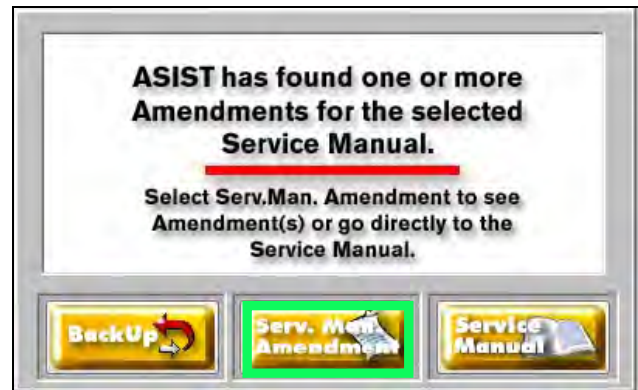

Figure 9
- d. **Serv. Man. Amendment** (Figure 9)